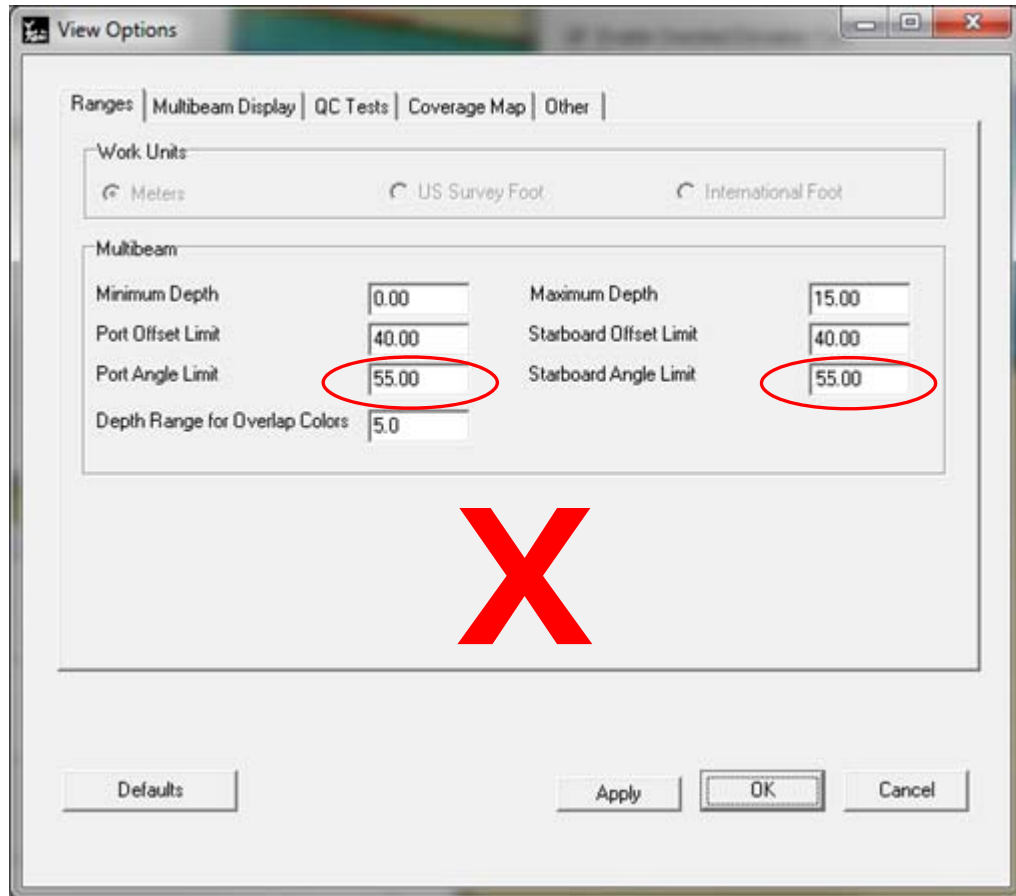
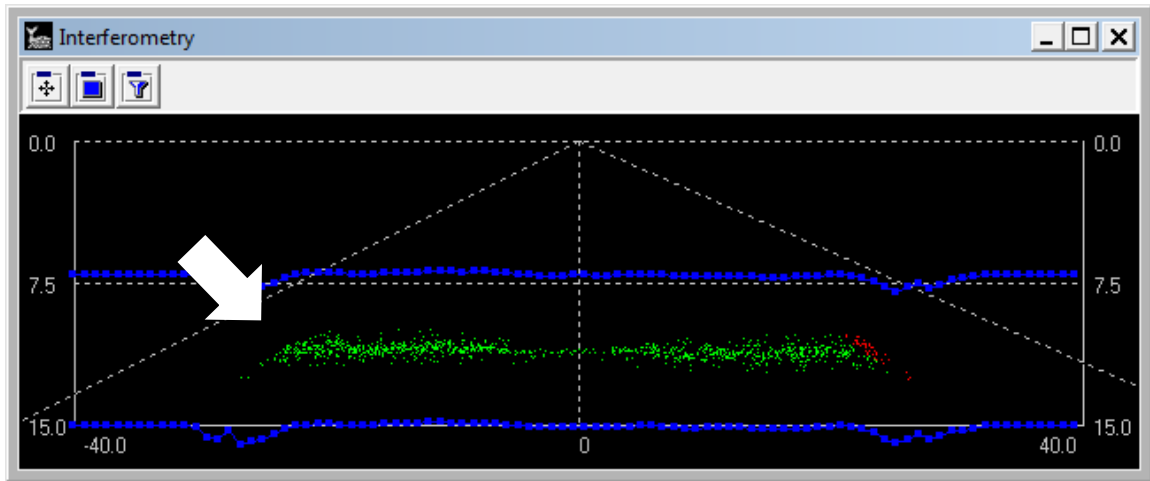

Figure 32: View Options Window – Incorrect Way of Limiting Data
Figure 33: Interferometry Window Illustrating a Biased Data Set Caused by too low of a Port and Starboard Angle Limit
10. Select the first button in Figure 31 to access the **Ranges** tab in the *View Options* window (Figure 32).
**Note 1:** It is important to note here that it is not a good idea to limit your data by setting the **Port and Starboard Angle Limits** under the **Ranges** tab (Figure 32). When the **Port and Starboard Angle Limits** are set too low ( $> 90^\circ$ ), the data becomes biased, resulting in a false curvature of the seafloor. Figure 33 and Figure 34 illustrate this “biasing” concept.